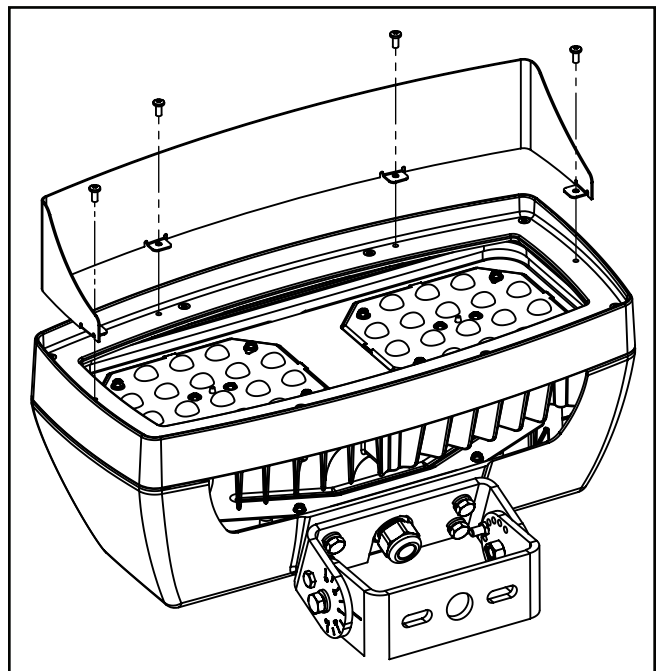

Figure 6.
Visor (Figure 6.)
1. Align visor on top of lens frame matching the six existing holes. (Figure 6.)
2. Tighten (4) 8-32 screws to the face of the fixture.